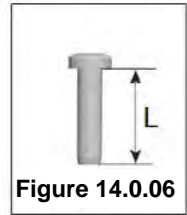
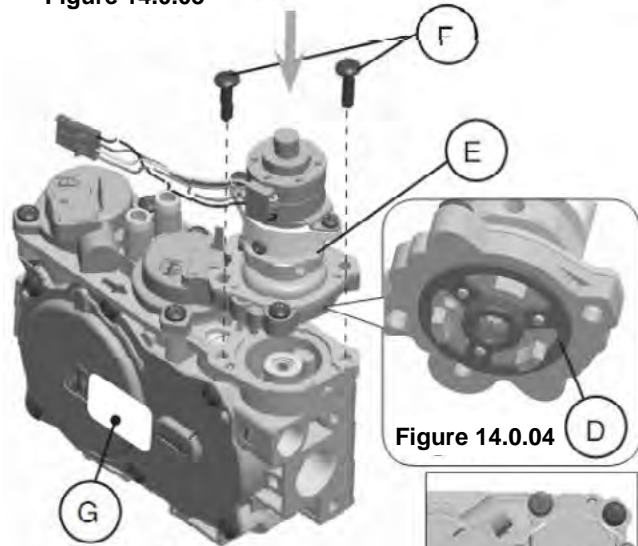

Figure 14.0.06
Figure 14.0.05
4. Install the new STEPPER MOTOR pressure regulator assembly, as shown in Figure 14.0.05 and Figure 14.0.06. Use the supplied screws (F), M4 x 0.7 threaded length of thread $L=(16\text{ mm} + 0 - 0.5\text{ mm})$, steel material, resistance class 8.8 (see Figure 14.0.07).
6. Install the enclosed identification label (G) to the valve body where it can be easily seen.